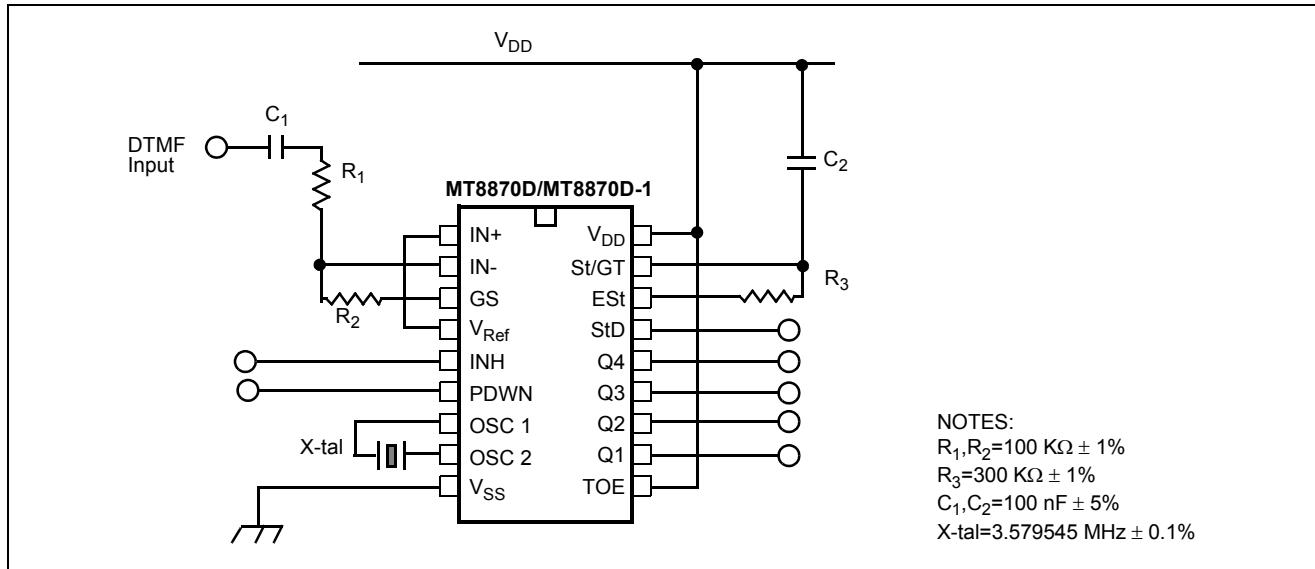

Figure 10 - Single-Ended Input Configuration
MT8870D AC Electrical Characteristics - $V_{DD}=5.0V \pm 5\%$, $V_{SS}=0V$, $-40^{\circ}C \leq T_O \leq +85^{\circ}C$, using Test Circuit shown in Figure 10.
MT8870D-1 AC Electrical Characteristics - $V_{DD}=5.0V\pm5\%$, $V_{SS}=0V$, $-40^{\circ}C \leq T_O \leq +85^{\circ}C$, using Test Circuit shown in Figure 10.
12. Referenced to Fig. 10 input DTMF tone level at -25dBm (-28dBm at GS Pin) interference frequency range between 480-3400Hz.
AC Electrical Characteristics - $V_{DD}=5.0V\pm5\%$, $V_{SS}=0V$, $-40^{\circ}C \leq T_o \leq +85^{\circ}C$, using Test Circuit shown in Figure 10.